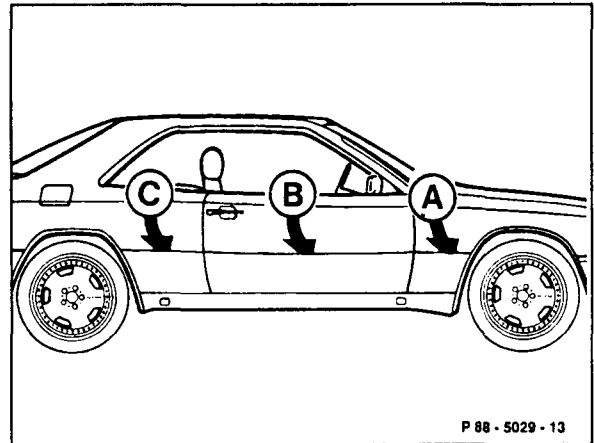

Figure 15
2. Open door and remove screws for side panel (B, Figure 15). Using plastic wedge (110 589 03 59 00) push panel towards rear to disengage it, then remove from the door.